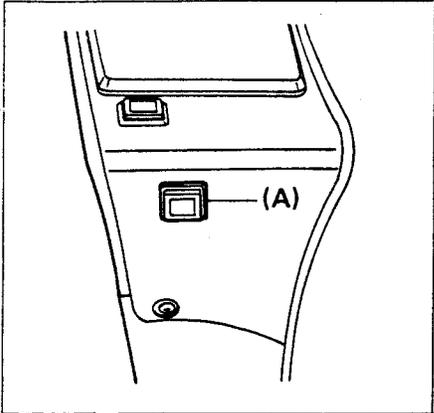
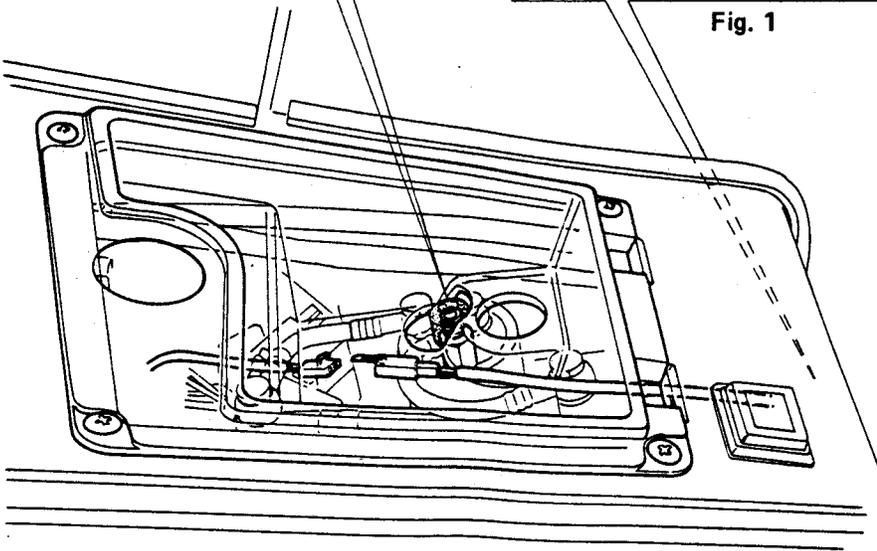

Fig. 1
Fig. 3
1. Determine the place to install the switch by removing the fairing lid and case from left side fairing. (Fig. 1)
3. Drill holes along the inner sides of the tape as shown in the Fig. 1 and use a cutter or the like to cut it down.
5. Install the switch (A).
6. Connect the switch coupler to the coupler, both of which have the same wire colors of red/green and red/yellow, extended from the wire harness. (Fig.3)